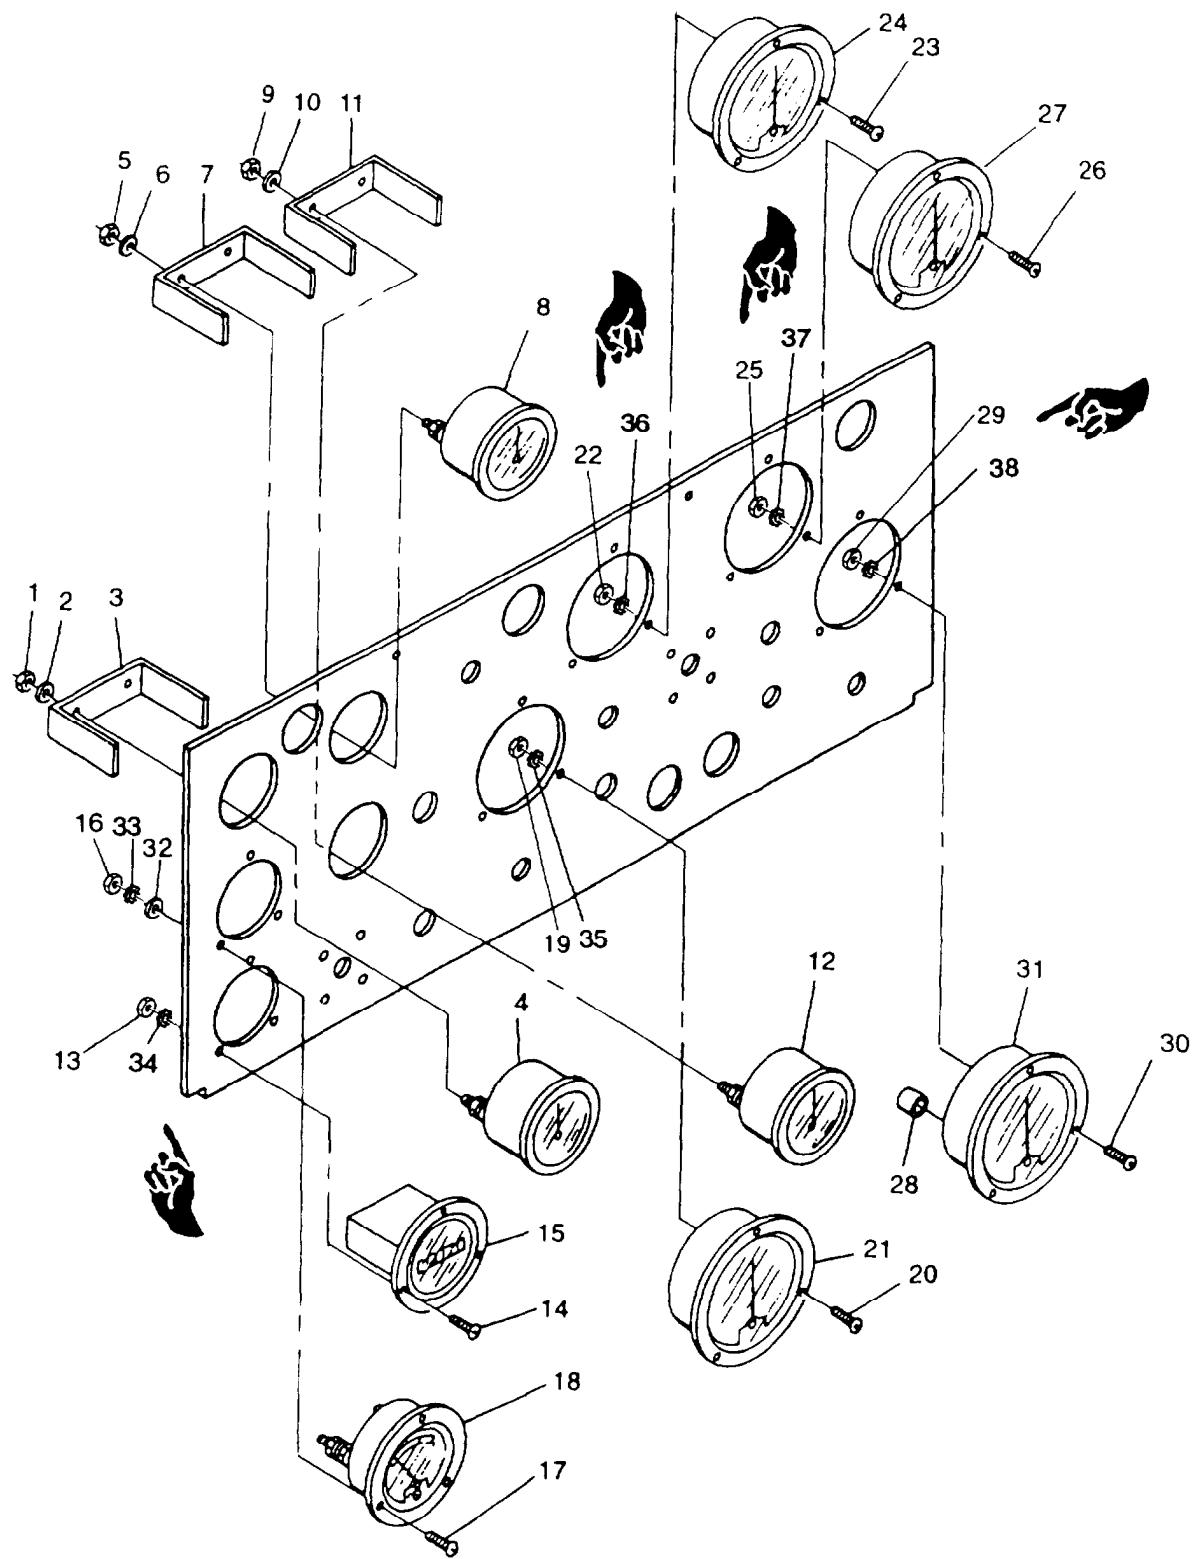

FIGURE 2-12. Control Panel Indicators
- d. Tag and disconnect COOLANT TEMP. indicator (8, FIGURE 2-12) electrical leads.
- e. Remove nuts (5), washers (6), and clamp (7).
- f. Remove COOLANT TEMP. indicator (8) from control panel.
- a. Insert COOLANT TEMP. indicator (8, FIGURE 2-12) in control panel.
- b. Install damp (7), washers (6), and nuts (5).
- d. Tag and disconnect OIL PRESSURE indicator (12, FIGURE 2-12) electrical leads.
- e. Remove nuts (9), washers (10), clamp (11), and ground wire.
- f. Remove OIL PRESSURE indicator (12) from control panel.
- a. Insert OIL PRESSURE indicator (12, FIGURE 2-12) into control panel.
- b. Install clamp (11), washers (10), and nuts (9).
- d. Tag and disconnect time meter (TOTAL HOURS) (15, FIGURE 2-12) electrical leads.
- e Remove screws (14), washers (34), and nuts (13)
- f. Remove time meter (TOTAL HOURS) (15) from control panel
- a. Insert time meter (TOTAL HOURS) (15, FIGURE 2-12) into control panel
- b. Install screws (14), washers (34). and nuts (13)
- d Tag and disconnect BATTERY CHARGE ammeter (18, FIGURE 2-12) electrical leads
- e Remove nuts (16). washers (32. 33). and screws (17)
- f Remove BATTERY CHARGE ammeter (18)
- a Insert BATTERY CHARGE ammeter (18, FIGURE 2-12) into control panel
- d. Tag and disconnect FREQUENCY meter (HERTZ) (21, FIGURE 2-12) electrical leads.
- e. Remove nuts (19), washers (35), and screws (20).
- f. Remove FREQUENCY meter (HERTZ) (21) from control panel.
- a. Insert FREQUENCY meter (HERTZ) (21, FIGURE 2-12) into control panel.
- b. Install screws (20), washers (35). and nuts (19).
- d. Tag and disconnect ammeter (PERCENT RATED CURRENT) (24, FIGURE 2-12) electrical leads.
- e. Remove nuts (22), washers (36), and screws (23).
- f. Remove ammeter (PERCENT RATED CURRENT) (24) from control panel.
- a. Insert ammeter (PERCENT RATED CURRENT) (24, FIGURE 2-12) into control panel
- b. Install screws (23), washers (36) and nuts (22).